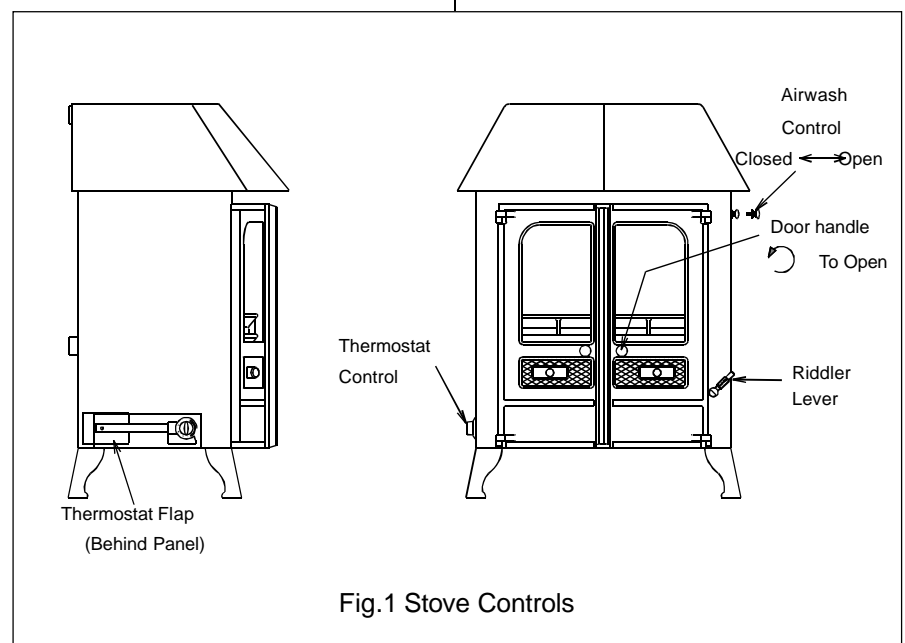

Fig.1 Stove Controls
Use the door opening and ashpan tool to open and close the doors. Turn the right-hand door knob anti-clockwise to open and clockwise to close (see Fig.1)
or fire lighters, and kindling on the grate and cover with approximately 2 inches of fuel. Turn the control knob to maximum, and open the airwash control fully (see Fig. 1). Light the paper or fire lighters. Close the doors until the fuel is well ignited then load with fuel and adjust the air controls to the required setting.
The rate of burning and hence the output is controlled by the control knob on the side of the fire and the airwash control (see Fig. 1).
- c) the thermostat flap is closed (at the bottom of the left hand side of the appliance, see Fig. 1.) and that it is not prevented from closing completely by a piece of ash,